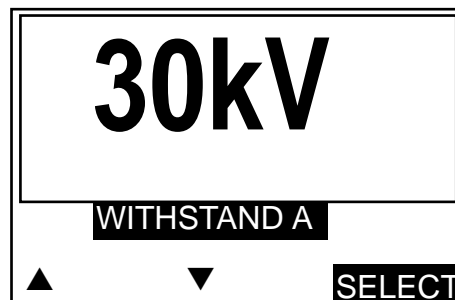

Figure 16. Withstand test voltage level display screen.
3. The display now changes to show the Withstand voltage level and allow it to be altered as required. The display appears similar to figure 16.